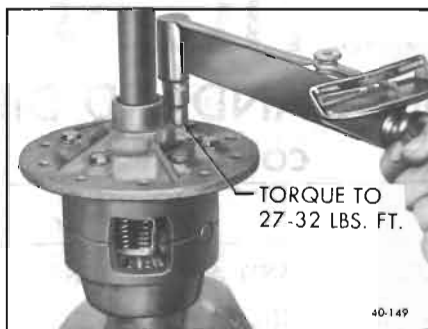

Figure 40-149—Torquing Differential Bolts
9. Install other axle shaft through flange half of differential case rotating axle to enter cone splines and then side gear splines. Leaving the axle shaft in this position, insert remaining bolts and tighten to 27-32 lb. ft. See Figure 40-149.